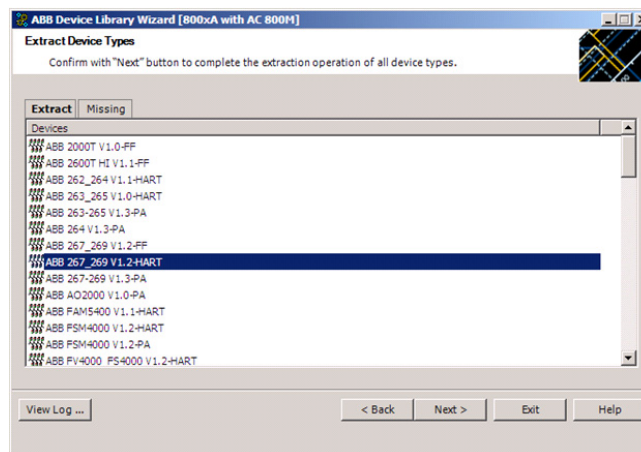

Figure 9. Extract Device Type Files
9. The Device Library Wizard scans the 800xA System for fieldbus device types that are already used and compares the results with the contents of the DVD. Device Types available in the 800xA System and the DVD are shown in the **Extract** tab of the Device Library Wizard (Figure 9).